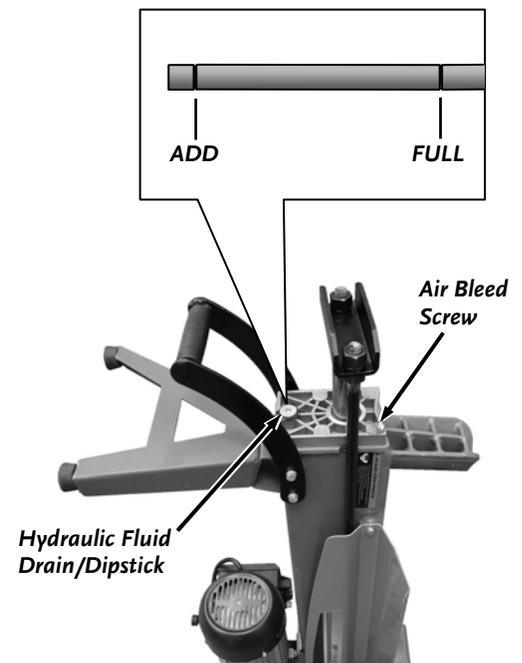

Figure 13
1. Check the hydraulic fluid level by tipping the machine up vertical on the Wheels (you may need to have someone support the Wood Splitter to prevent tipping over). Clean the area around the Hydraulic Fluid Fill/Drain Port (**Figure 13**) and then, using a 6mm Allen Wrench, unscrew and remove the Dipstick located in the Hydraulic Fluid Fill/Drain Port.